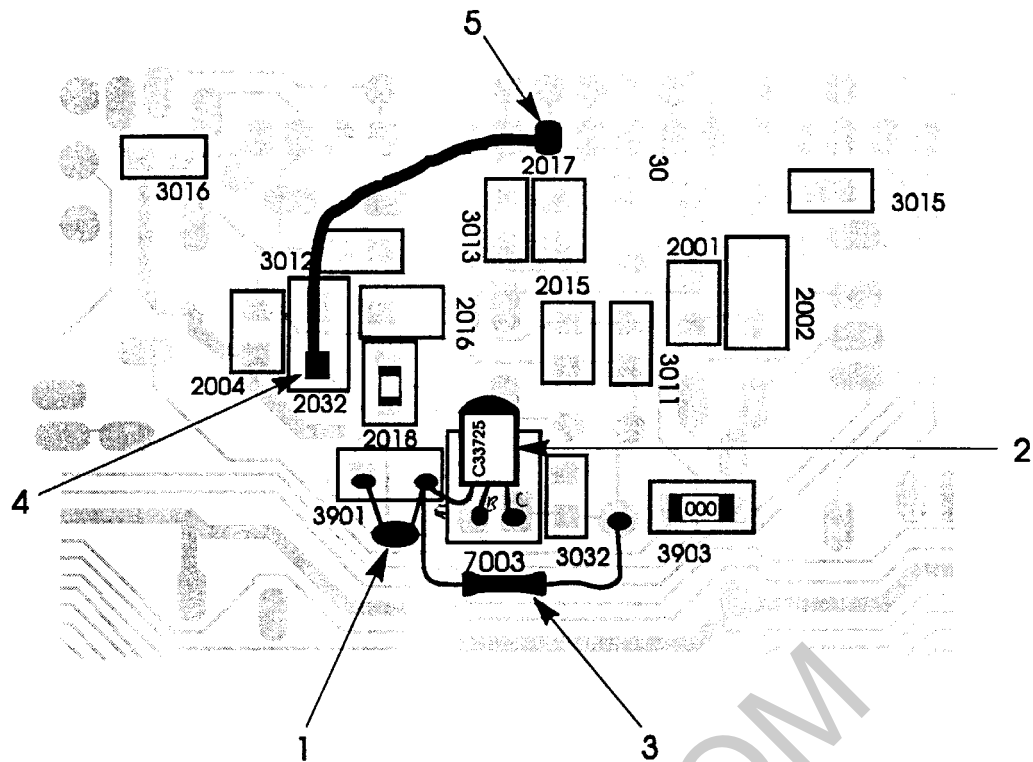

Abb. 11
3. Solder resistor 1 M Ω between collector and emitter (Fig. 11, Pos. 3).
4. Solder a wire from Fig.11, Pos. 4 to pin 33 TDA 8900 (Fig. 11, Pos. 5).